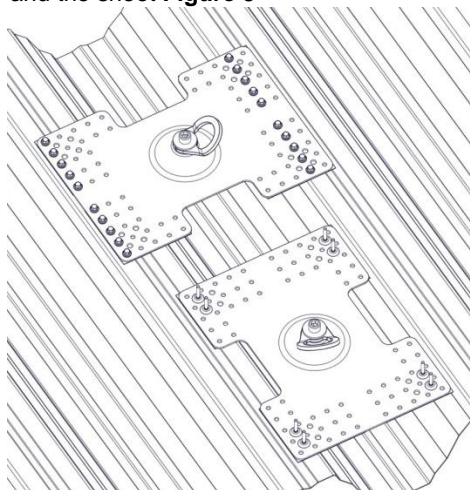
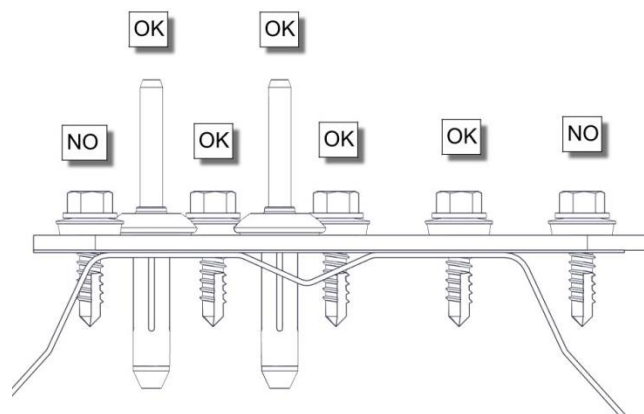

Figure 4. Positioning of post lengthwise and crosswise the trapezoidal sheet.
Figure 6. Correct positioning of screws/ rivets on sheet
- Check direction of installation of plate according to direction of ridges of the trapezoidal sheet **Figure 4**
- Determine position of the anchor point on ridges of the trapezoidal sheet **Figure 4** so the line of screws or rivets is run on the flat part of the sheet **Figure 6**